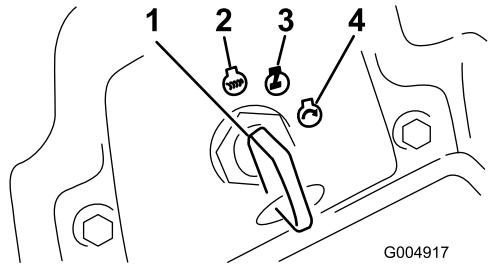

Figure 48
- Turn the ignition key clockwise to the Run position (Figure 48).
- Turn the ignition key to the Off position (Figure 48). Wait for all moving parts to stop before leaving the operating position.